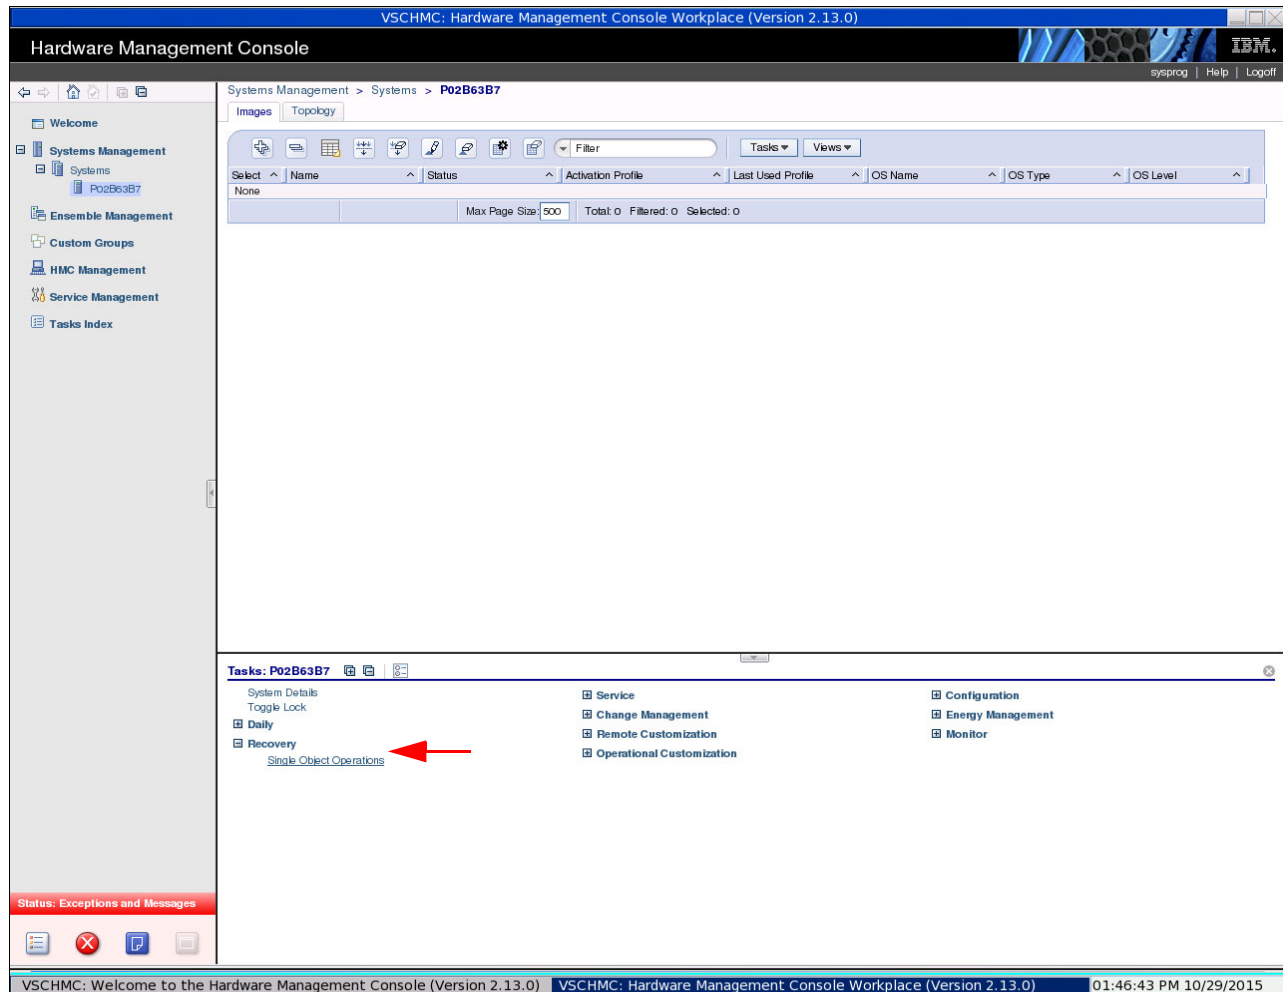

Figure 4-13 Single Object Operations selection
3. In the Tasks tab in the bottom of the window, we select **Recovery** → **Single Object Operations**, as shown in Figure 4-13. With single-object operations, we want to connect to the SE.